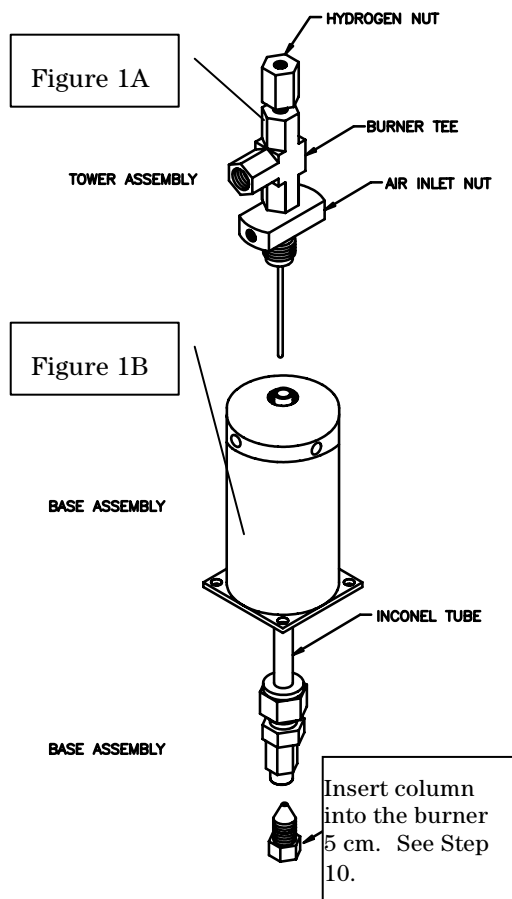

Figure 1
15. Re-insert the GC column into the burner. Do not force the column. The pathway is narrow and may take several tries to seat it correctly. The column should be inserted 5 cm into the burner from the top of the ferrule to the end of the column (see Figure1).